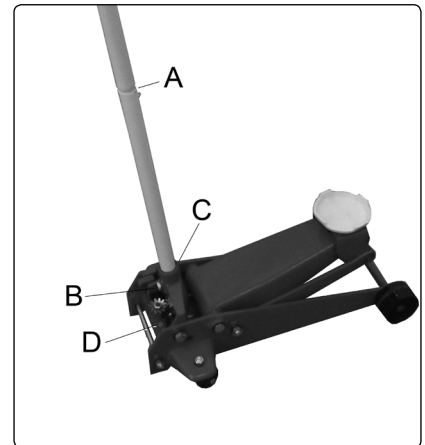

fig.1
- 4.1.1. Assemble handle by sliding the two parts together and rotating until the locking pin clicks into position. fig.1A. Partially unscrew knurled nob fig.1.B until handle slides fully into socket fig.1C. Tighten Knurled nob to lock handle in place.